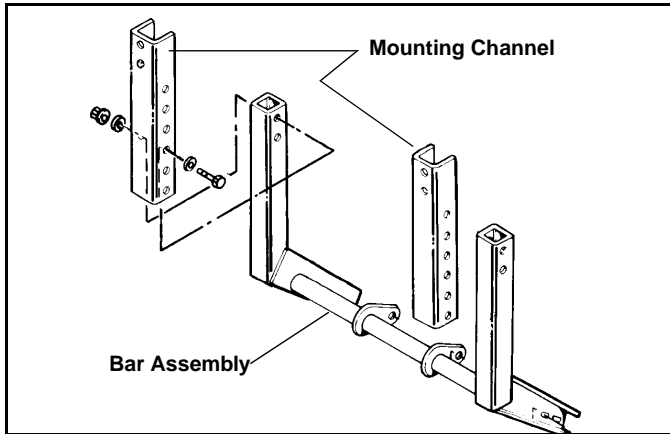

Figure 6
2. Attach Mounting Channels (#20) to Lower Bar Assembly using four (4) 3/8" x 3" Capscrews (#24), Washers (8 req.) and Nylock Nuts Provided. (See Figure 6)